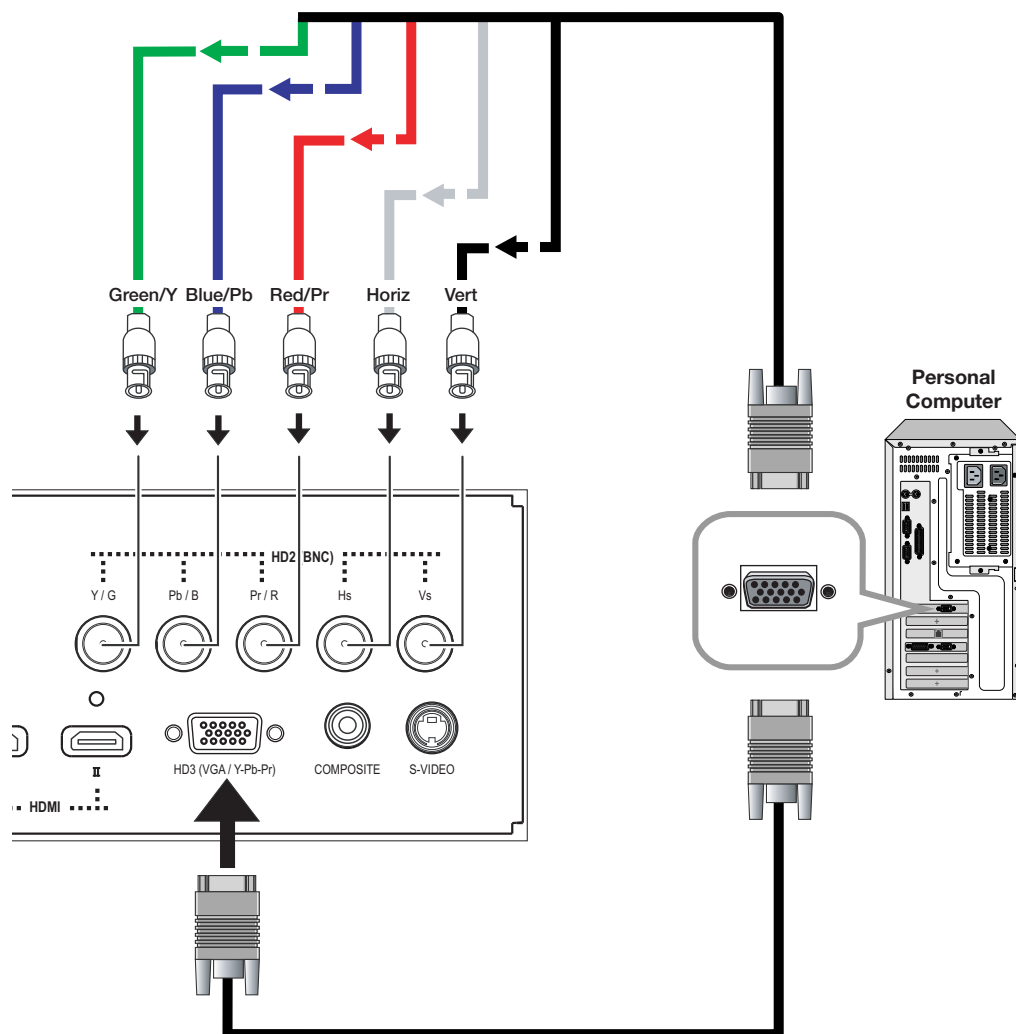

**Figure 3-14. Analog RGB Connections**
**Analog (Computer) RGB Connections:** See Figure 3-14.